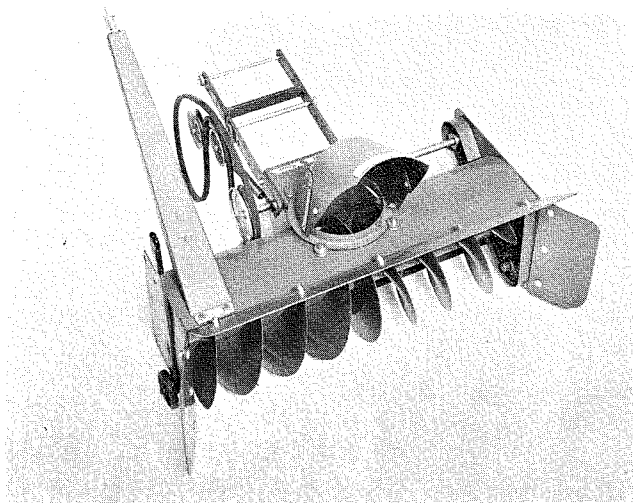

Figure 2
1. Mount the top and side extension plates as shown in Figure 2. Secure in place with the bolts, washers and nuts provided.
2. Install the mounting frame assembly by bolting the end with the four bolt holes to the blower housing frame. The arms should extend upward from the blower housing as shown in Fig. 2. Use the bolts and nuts provided to secure in place. Place one shim (#4774 no Cutout) between the LEFT arm and outside the blower housing. Place the remaining shim (#9696 with Cutout) between the RIGHT arm and the outside of the blower housing.
3. Loosen the two $\frac{1}{4}$ " bolts holding the rear rollers. Slide the roller back and insert the ring on the shroud assembly into the roller grooves. Adjust the rollers forward to fit snug against the shroud ring. Tighten the bolts, the shroud should turn freely. See Fig. 2.
4. Insert idler arm assembly shaft through the hole in the right side of the mounting frame assembly. The assembly is held in place with a $\frac{1}{2}$ " washer and a hairpin cotter, items 17 and 18, see the exploded view drawing. Stretch the spring that is connected to the idler arm and hook the loose end into the hole provided in the blower housing frame.
6. Attach the crank and support assembly to the blower housing line up the holes in the crank support with the two holes in the blower housing and the two holes in the bracket. Two reinforcing plates are used to support the assembly to the blower housing. One is placed directly under the bolt heads and the other is placed on the inside of the blower housing, see Fig. 2 and the exploded view drawing.